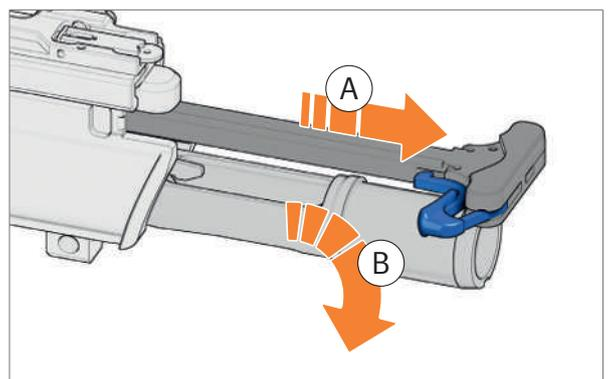

Fig. 97: Remove bolt group
3. Remove bolt group from upper receiver (*Fig. 97*).